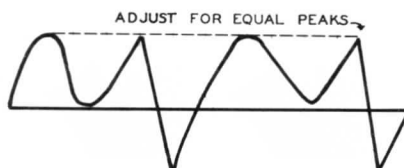

FIG. 8
- Adjust B3 until the broad and sharp peaks of the waveform on the scope are of equal height as shown in figure 8. If necessary turn the hold control to keep the picture in sync while adjusting B3.